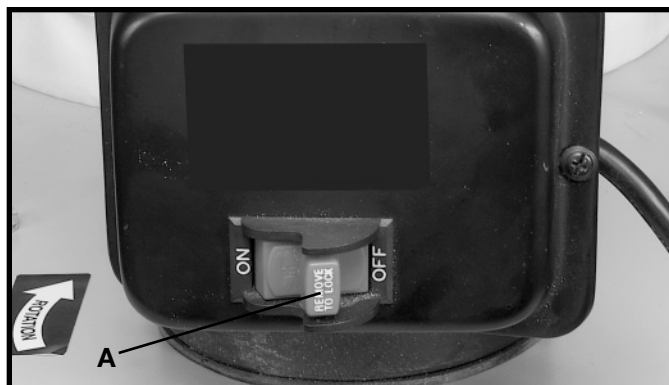

Fig. 19
The on/off switch (A) Fig. 19 is located on the side of the motor. To turn the machine "ON", move the switch up to the "ON" position. To turn the machine "OFF", move the switch (A) down to the "OFF" position.